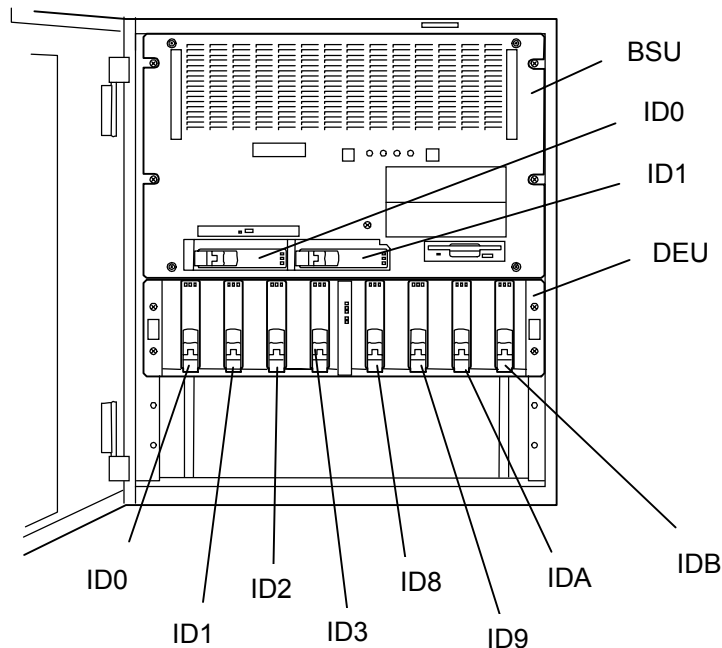

Figure 4-52. Hard Disk Drive Bays
4. Determine which hard disk drive bay will house the new hard drive, see Figure 4-52.